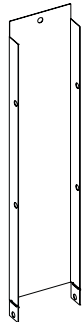

Figure 33
1. Locate the three steel middle mounting brackets under the burner cover. See Figure 33.